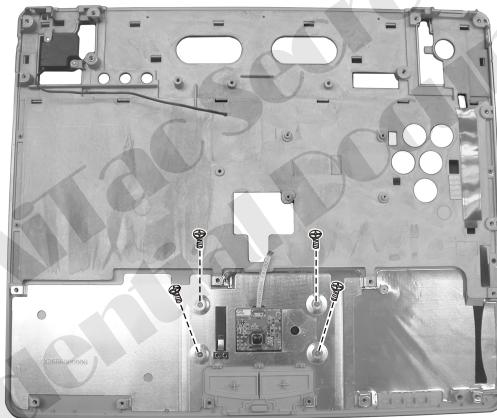

Figure 2-30 Free the touch pad
2. Remove the four screws and lift the shielding, then free the touch pad. (Figure 2-30)